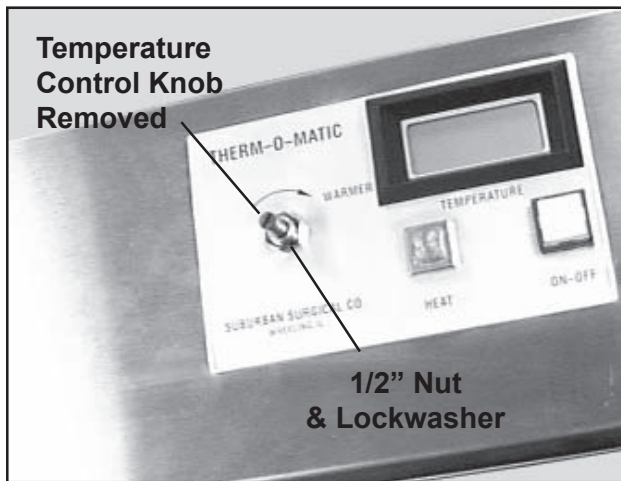

Figure 22. Temperature Control Nut, & Lockwasher
6. With a 1/2 in. wrench, remove the nut and lockwasher from the shaft on the front of the heat controller (Figure 22).
10. Secure the assembly in place by mounting the lock-washer and nut onto the shaft in front of the controller housing (Figure 22).
5. Secure the assembly in place by mounting the lock-washer and nut onto the shaft in front of the controller housing (Figure 22).